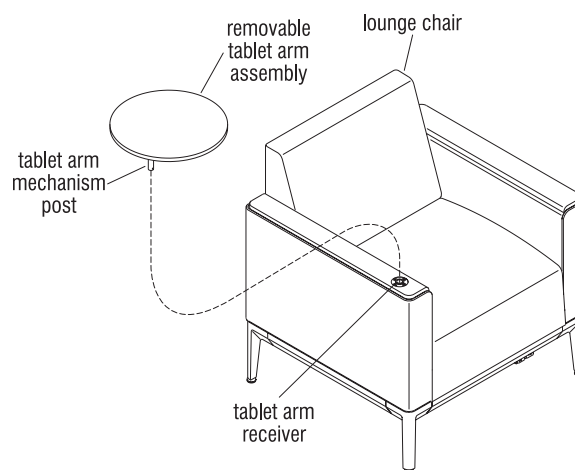

Figure 2
1. Locate the removable tablet arm assembly and remove the shipping packaging from it (Figure 2).
2. Take the removable tablet arm assembly and align the tablet arm mechanism post coming from the underside of the tablet board and insert into the tablet arm receiver located in the arm or armcap (Figure 2).